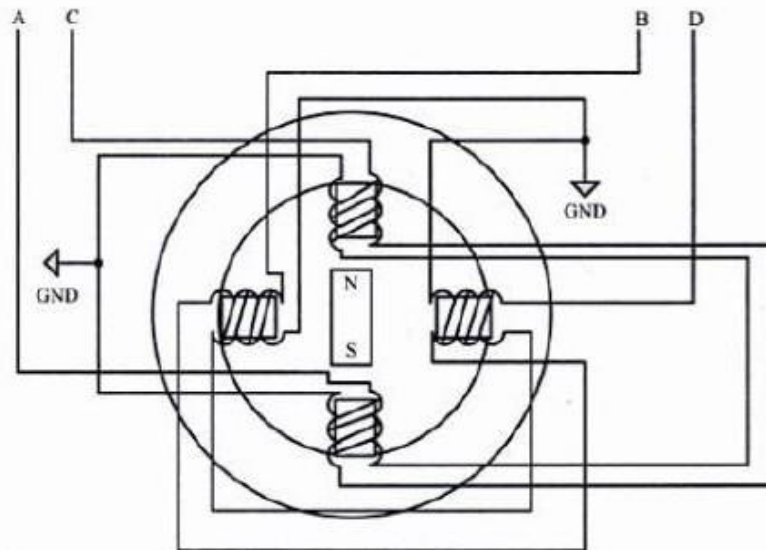

Fig. 2.19 Stator Winding details for a 2 Phase unipolar stepper motor
2. Bipolar A bipolar stepper motor contains single winding per phase. For reversing the motor rotation the current flow through the windings is reversed dynamically. It requires complex circuitry for current flow reversal. The stator winding details for a two phase unipolar stepper motor is shown in Fig. 2.19.